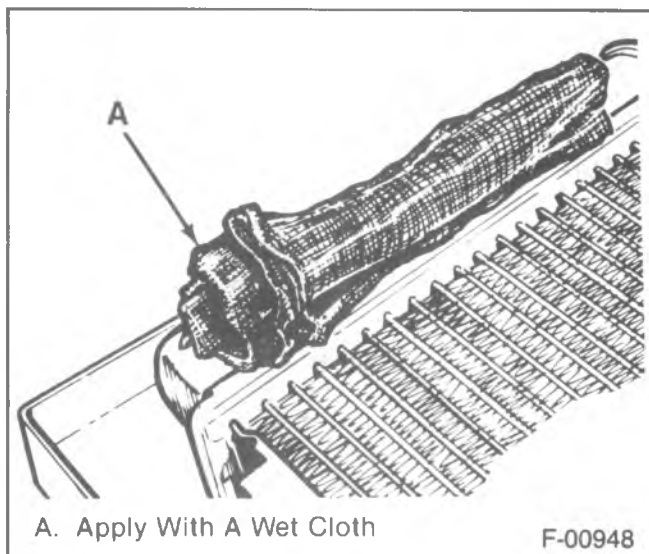
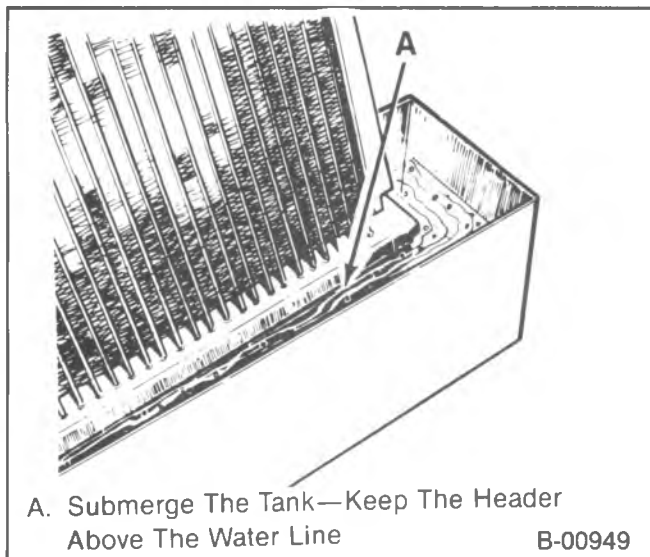

Figure 27—Using A Wet Cloth to Cool the Side Tank
Figure 28—Submerging the Side Tank
If the header or a tube near the header requires a repair, the side tank does not have to be removed. Place a damp cloth against the side tank where the repair has to be made (figure 27). The side tank can be submerged in a tank of water up to the header (figure 28).
2. Apply a wet cloth if you are working near the plastic tanks or the joints between the core tubes and header (figure 27); or submerge the tank in water (figure 28).